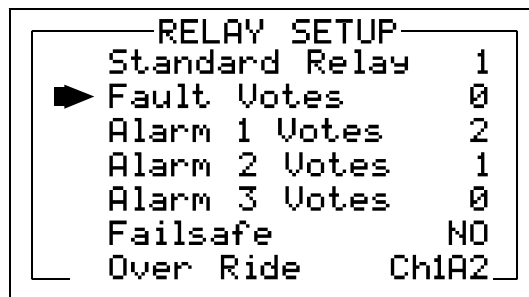

Figure 2.8
The menu shown in Figure 2.8 allows configuring of both the standard **Relay 1 & Relay 2** motherboard relays and the six optional relays on the 10-0222 discrete relay option PCB. Both standard and optional relays are programmed in this menu. Select the relay to be configured by pointing the arrow at the top menu item and pressing EDIT. The field will scroll through all eight possible relays (2 standard and 6 optional).
- **Fault, Alarm 1, Alarm 2, Alarm 3** menus in Figure 2.8 offers additional “voting” flexibility by controlling the channel alarm combinations that will trip the selected relay. Each *Votes* entry requires this quantity of channels, for of each type alarm be active before this relay activates. As illustrated in Figure 2.8 above, Standard Relay 1 activates when any 2 channels have Alarm 1 conditions, PLUS, any one channel has an Alarm 2 condition. And since the **Over Ride** menu (see description below) contains the **Ch1A2** entry Standard Relay 1 also activates if alarm 2 on channel 1 trips. Fault Votes and Alarm 3 Votes values are 0 therefore Fault and Alarm 3 conditions will not affect this relay. Votes follow the logical “AND” function.